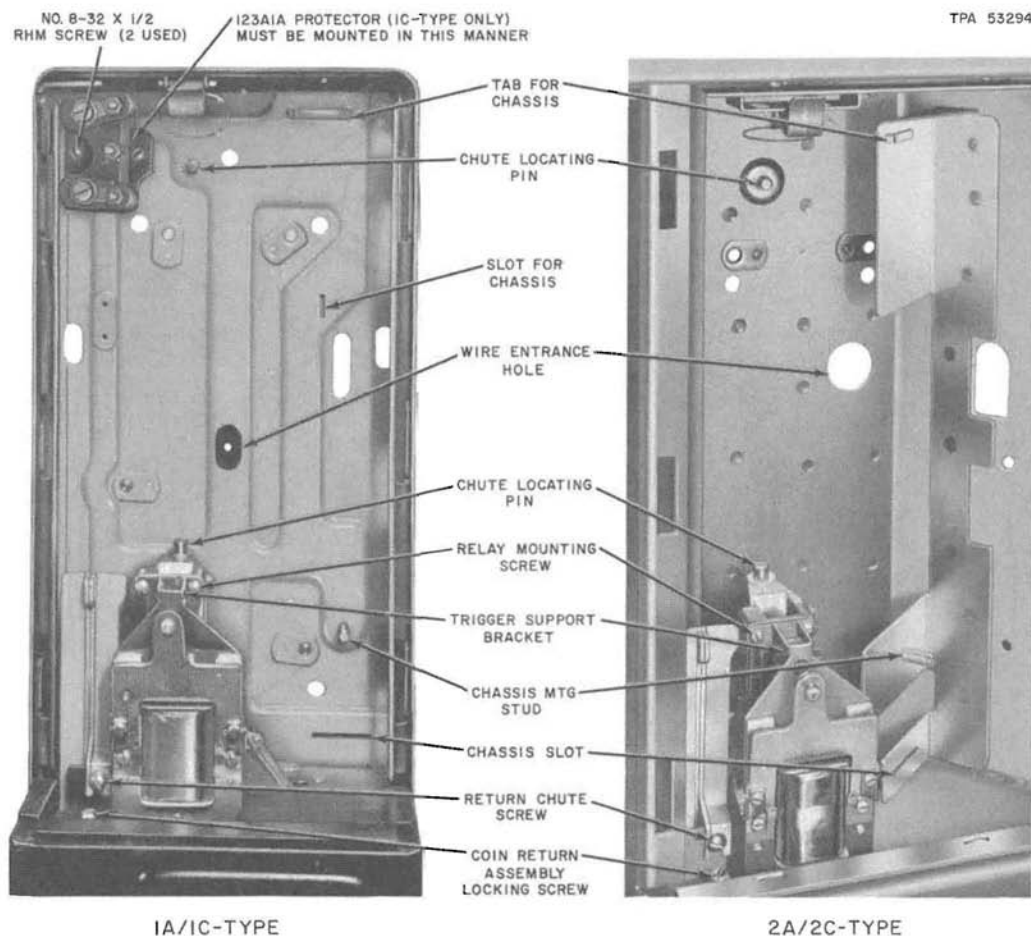

Fig. 9—Housing and Mounting Plate Assembly
- (1) Place chute on locating pins at rear of hopper assembly, and back of housing (Fig. 9).
- (1) Slide chassis under tab (Fig. 9).
- (2) Seat chassis tabs in slots.
- (3) Tighten chassis mounting captive screw.
- (4) Replace (BK) and (Y) leads on coin relay after threading through hole in hopper. Connect (Y) lead to terminal G and (BK) lead to terminal 3 of coin relay.